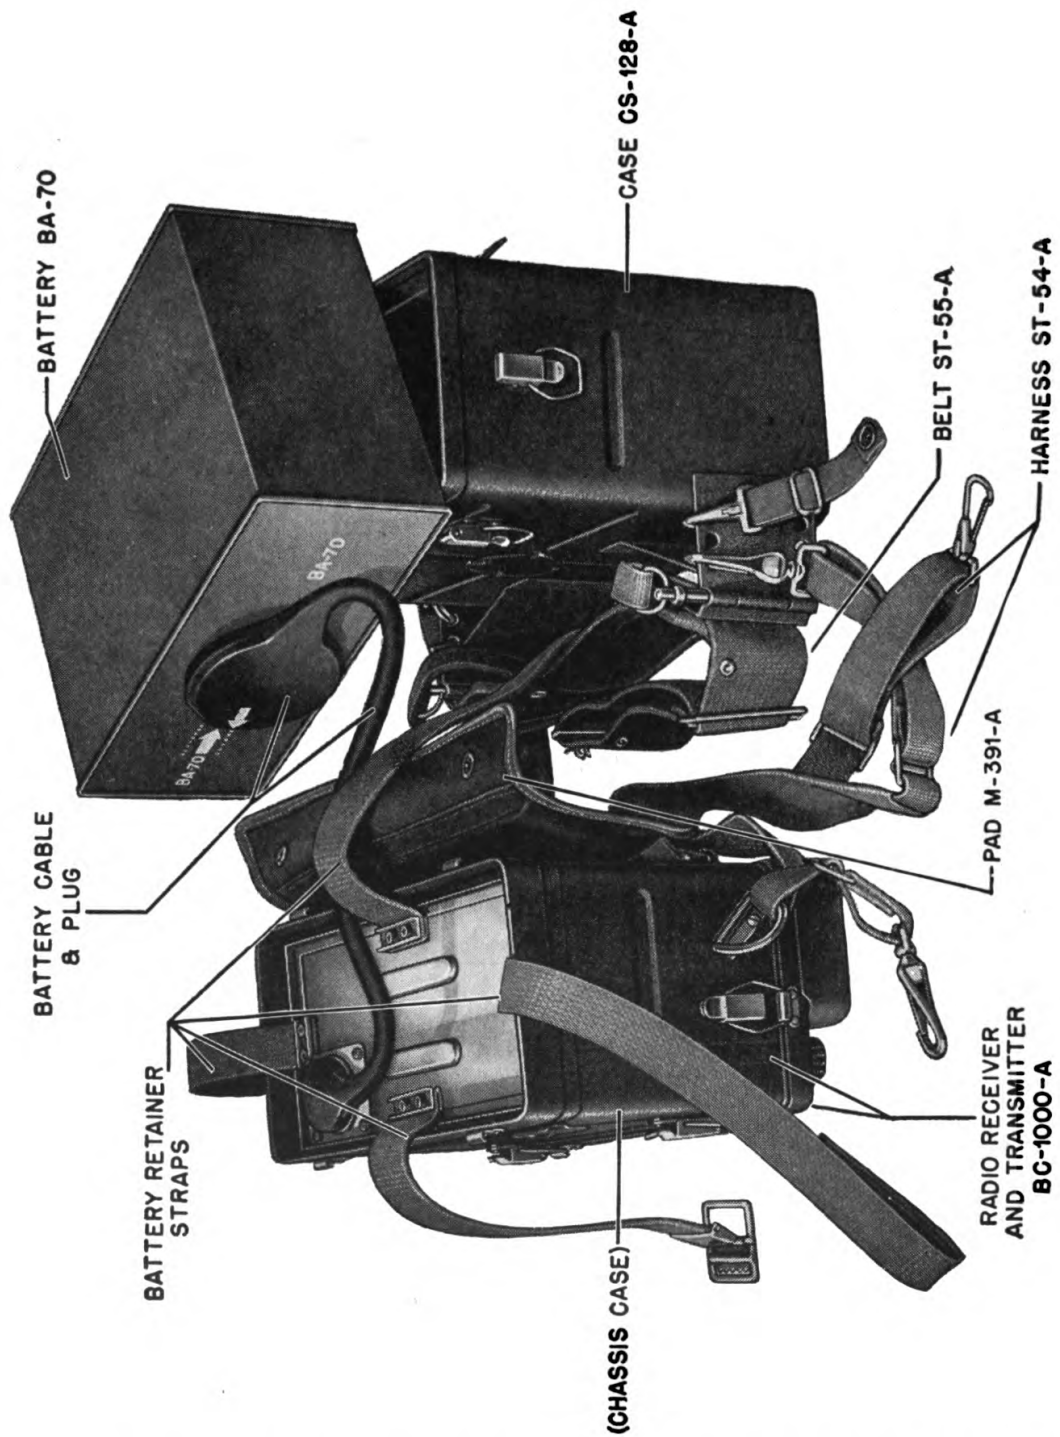

Figure 11. Disassembled View Showing Battery Cable Connected to Battery BA-70
(1) Release Case CS-128-A by unfastening the six lower clip catches. The top section of housing (Radio Receiver and Transmitter BC-1000-A with chassis case) can now be lifted off.
(2) Stand top section of housing upside down on bench or ground.
(3) Support the battery on the case as shown in Figure 11, and plug the rubber covered power cable plug into the battery socket so that the arrow on the plug points to the arrow on the battery.
(4) Lift the battery (with power cable attached) and gently lay it upside down in the bottom of the inverted chassis case. The battery cable must lie between the battery and the set case in one